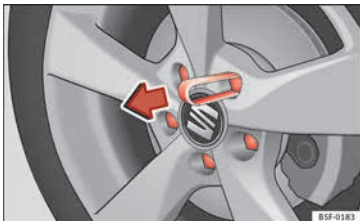

Fig. 60 Pull off the wheel bolt cap.
- Fit the plastic clip (vehicle tools) over the cap until it clicks into place »» Fig. 60.